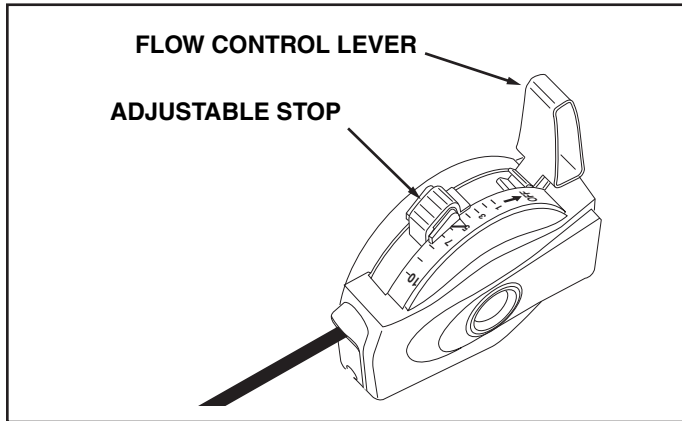

FIGURE 15
2. Move the Flow Control Lever forward until it snaps into the Adjustable Stop, locking the lever at the desired setting. See figure 15.